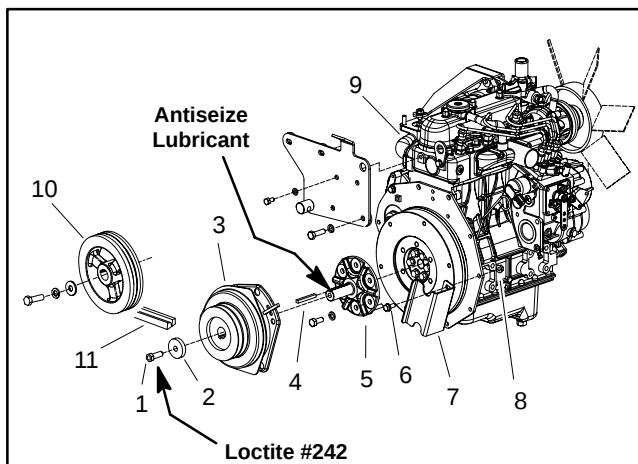
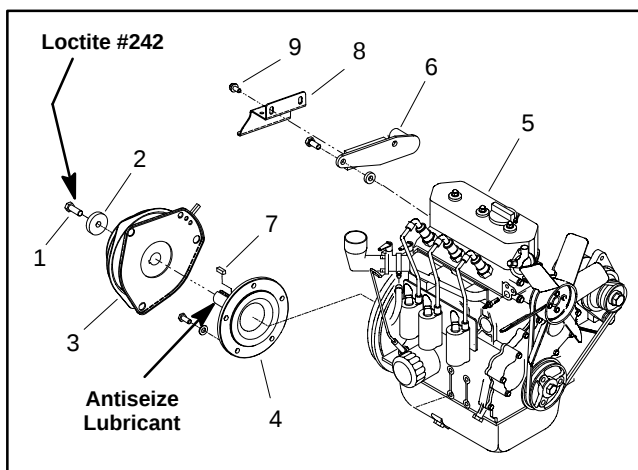

Figure 39
Figure 40
Removal (Figs. 39 and 40)
4. Remove clutch stop components using Figure 39 (Groundsmaster 3280-D) or Figure 40 (Groundsmaster 3320) as a guide.
Installation (Figs. 39 and 40)
4. Install clutch stop components using Figure 39 (Groundsmaster 3280-D) or Figure 40 (Groundsmaster 3320) as a guide. Make sure that clutch stop is tight against clutch flange.